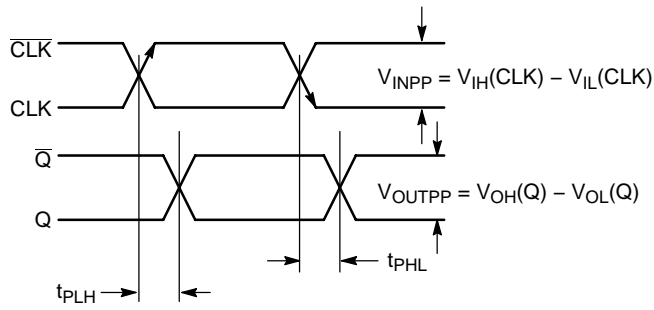

Figure 14. AC Reference Measurement
27. See Figure 14. $t_{SKEW} = |t_{PLH} - t_{PHL}|$ for a nominal 50% differential clock input waveform.
31. See Figure 14. $t_{SKEW} = |t_{PLH} - t_{PHL}|$ for a nominal 50% differential clock input waveform.